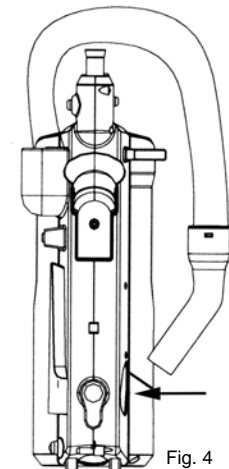

Fig. 4
- Insert the hose into the hose connector. (Fig.4)